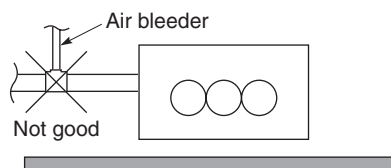

Fig. 1-76
- Do not install an air bleeder tube as this may cause water to spray from the drain pipe outlet. (Fig. 1-76)